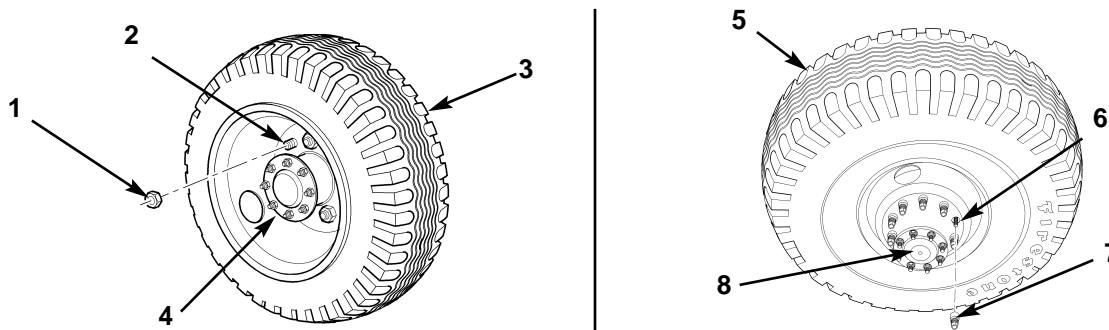

Figure 5. Removing Wheels from Rear-Rear Axle Hubs.
7. Using suitable impact wrench and socket, remove 10 lug nuts (figure 5, item 1) and outer wheel and tire assembly (figure 5, item 3) from dual wheel cap nuts (figure 5, item 2) on rear-rear axle (figure 5, item 4).
8. Using suitable impact wrench and socket, remove 10 dual wheel cap nuts (figure 5, item 7) and inner wheel and tire assembly (figure 5, item 5) from wheel studs (figure 5, item 6) and rear-rear axle hub (figure 5, item 8).